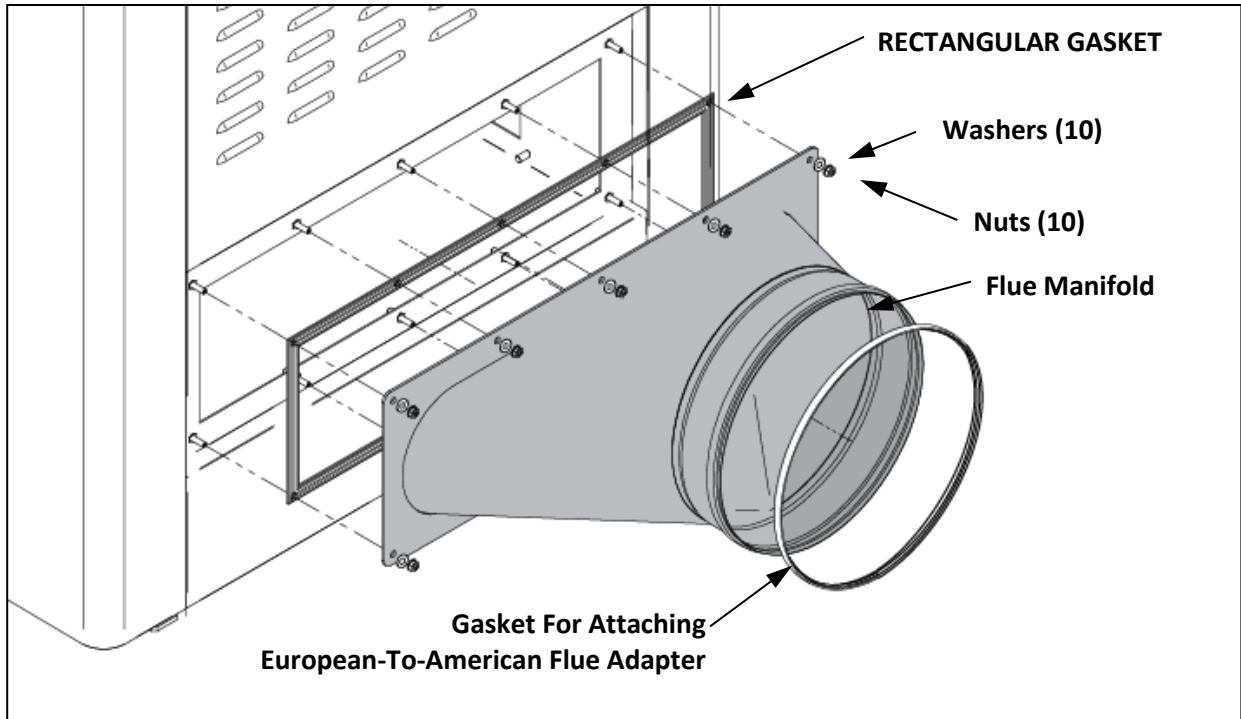

Figure 4-10: Connection of Exhaust Manifold to Boiler Flue Exhaust Outlet
To assemble the flue manifold to the boiler flue exhaust opening, retrieve the ten (10) nuts and washers from the plastic bag, shipped with the boiler, and affix to the boiler opening per Figure 4-10. The Manifold may be installed on left, front, or rear. If switching to left or rear positions, unused outlet should be covered with the plate and gasket removed from outlet being used.